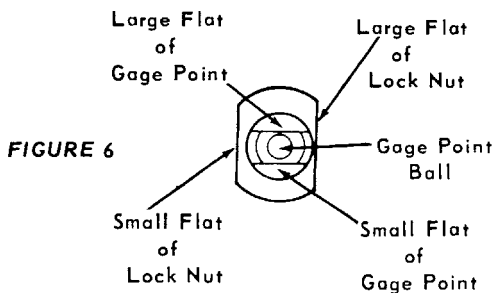

FIGURE 6
4. Now examine the Gage Point and Lock Nut Assembly. Note that the flats on both the Lock Nut and the end of the Gage Point are milled off center, making one flat larger than the other (see Figure 6).